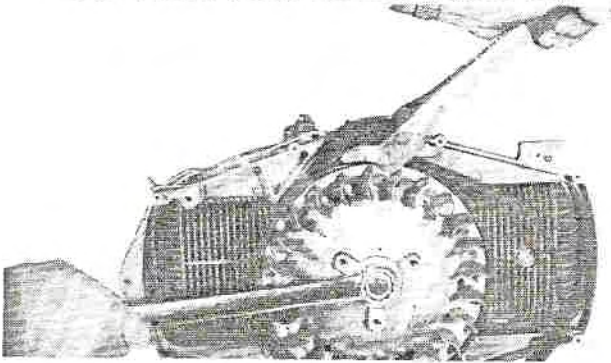
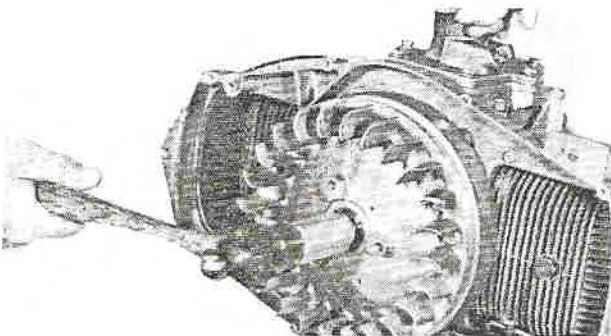

Fig. 9
Fig. 10
13. Remove flywheel and starter belt. Remove flywheel nut using strap wrench, number 112020 to hold the flywheel. Figure 9. Remove the flywheel from the crankshaft using a 3/8-18 knock-off (part no. 809315). Be sure the knock-off is screwed onto the crankshaft as far as it will go. apply light pressure to the back of the flywheel and hit the knock-off a sharp blow with a metal hammer (Figure 10).